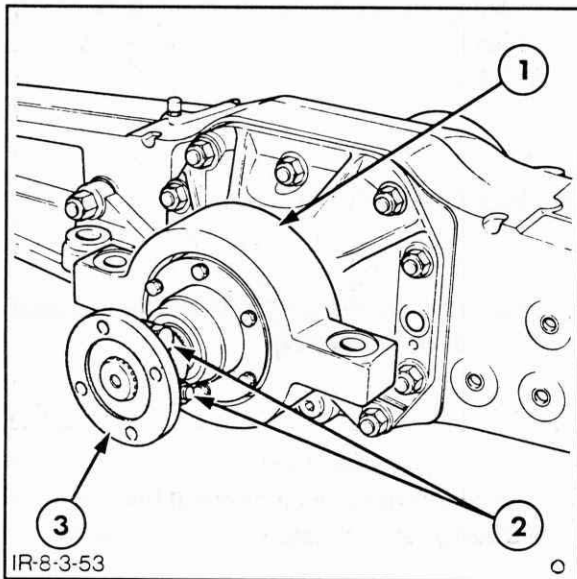

Figure 7-116
4. Remove the two bolts securing the drive shaft coupler to the pinion shaft, Figure 7-116, and remove the coupler from the shaft.